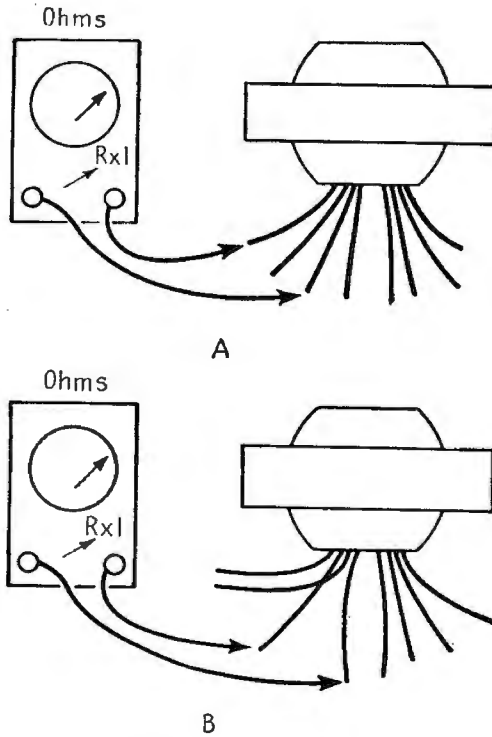

FIG. 8-7.—Pairing the leads.
b. Separate these two or three leads, as the case may be, and repeat to find the other windings, as shown in Fig. 8-7*B*.